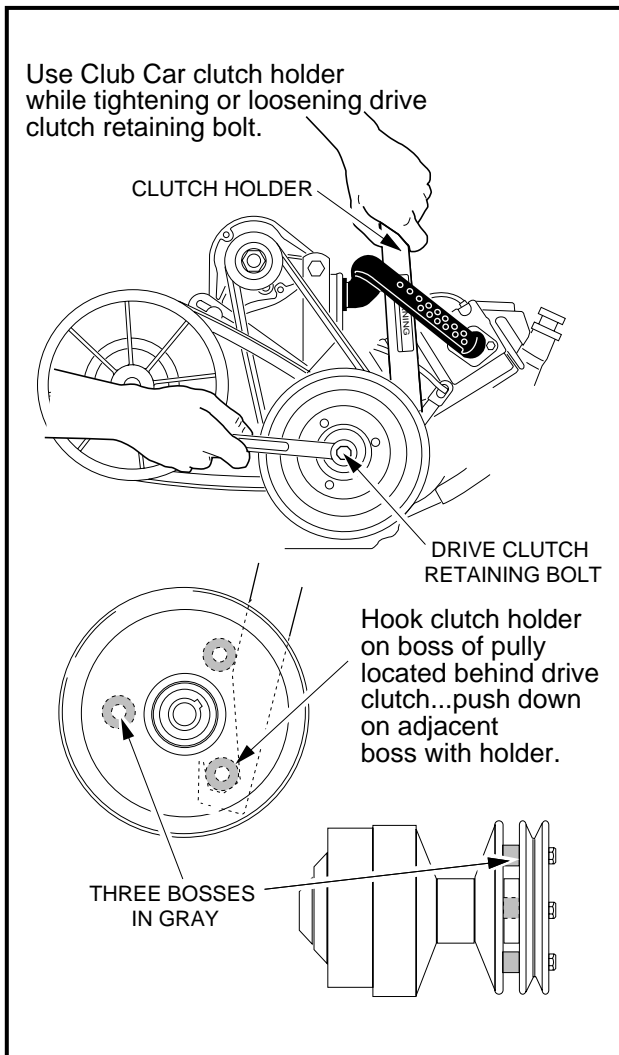
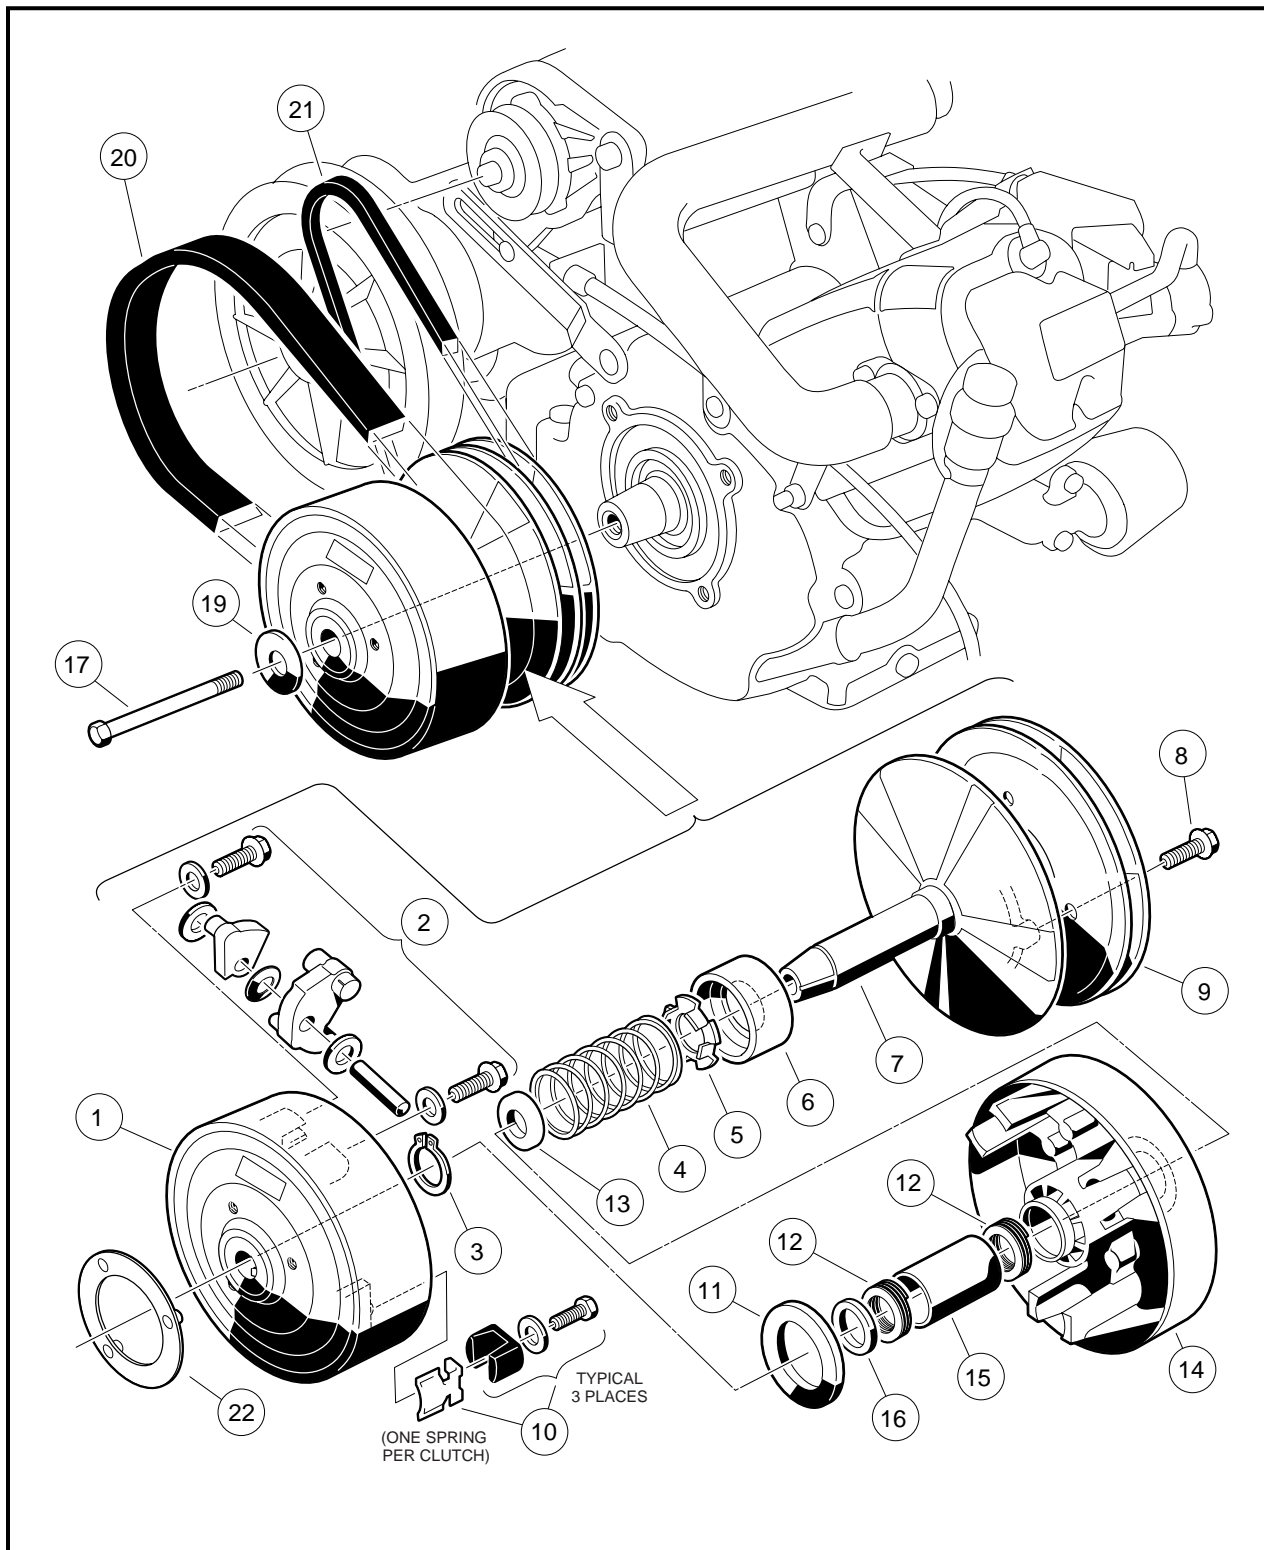

Figure 17-3 Loosen Retaining Bolt
Figure 17-5 Drive Clutch Assembly
3. If cleaning the driven clutch does not solve the problem, disassemble and thoroughly clean all parts of the drive clutch. Be sure to clean the plastic drive buttons (10) (**Figure 17-5, Page 17-6**).
4. Remove the drive clutch retaining bolt (17) and mounting washer (19) (**Figure 17-5, Page 17-6**) (**See also Figure 17-3**). **See following NOTE.**
- USE ONLY A DRY CLOTH TO LIGHTLY WIPE THE SHAFT OF THE FIXED FACE ASSEMBLY (7) (**FIGURE 17-5, PAGE 17-6**). DO NOT USE A BRUSH OR STEEL WOOL. THESE WILL DAMAGE THE SURFACE OF THE SHAFT.
2. Remove the clutch cover (1) (**Figure 17-5, Page 17-6**):
- 2.1. Remove the clutch plug (22) (**Figure 17-5, Page 17-6**).
3. Remove the thrust washer (11) from the moveable face (14) (**Figure 17-5, Page 17-6**).
6. Remove the retaining ring (3) from the shaft of the fixed face assembly (7) and slide the moveable face (14) off the shaft (**Figure 17-5, Page 17-6**). See following NOTE.
- IF THE MOVEABLE FACE IS REMOVED FROM THE HUB OF THE FIXED FACE, THE SPIRAL BACK-UP RINGS (12) (**FIGURE 17-5, PAGE 17-6**) MUST BE REPLACED WITH NEW ONES.
7. Remove the spacer (16), and spring (4) and retainer (5). The spring retainer can be removed from the spring if necessary (**Figure 17-5, Page 17-6**).
9. Use a scribe or small pick to remove the spiral backup rings (12) from each end of the bore in the fixed face assembly (**Figure 17-5, Page 17-6**). See **Figure 17-11, Page 17-9**. Discard the rings.
1. Inspect the idler bearing (6) for smooth rotation or seal damage (**Figure 17-5, Page 17-6**).
2. Inspect the bore of the moveable face assembly (14) for scarring or wear. The moveable face assembly must be replaced if the bore is worn to a diameter of 0.883 inch (22.4 mm) or larger (**Figure 17-5, Page 17-6**).
3. Inspect the steel shaft (7) on the fixed face assembly. There should be no measurable wear anywhere on the shaft. Replace the shaft if it is worn, scratched, or damaged (**Figure 17-5, Page 17-6**).
4. Inspect the thrust washer (11) for wear. If it is worn more than 0.030 inch (0.76 mm), turn it over or replace it with a new one (**Figure 17-5, Page 17-6**).
5. Inspect the primary weights (2) and the hub casting for wear. If the primary weights show signs they are touching the casting, the tips of the weights have worn beyond specification and they must be replaced (**Figure 17-5, Page 17-6**).
6. Inspect the pins on the primary weights (2). There should be no measurable wear. Replace them if they are worn, scratched, or damaged (**Figure 17-5, Page 17-6**).
1. Press idler bearing (6) onto the shaft of the fixed face assembly (7). Press on the inner race of the bearing only. Make sure that the cup side of bearing is facing away from the fixed face (**Figure 17-5, Page 17-6**).
2. Using needle nose pliers, install the spring retainer (5) onto the spring (4) (**Figure 17-5, Page 17-6**).
3. Install the spring (4) and retainer (5) into the cup of the idler bearing (6) (**Figure 17-5, Page 17-6**).
4. Install the spacer (13) onto the shaft of the fixed face (**Figure 17-5, Page 17-6**).
5. Install a new spiral backup ring (12) in each end of the bore of the moveable face assembly (14) (**Figure 17-5, Page 17-6**).
6. Install the moveable face assembly (14) onto the shaft of the fixed face assembly (7) (**Figure 17-5, Page 17-6**).
- 6.2. Install the retaining ring (3) (**Figure 17-5, Page 17-6**).
12. Install the 1/4-20 screws and washers (2) and tighten them to 10 ft-lb (13 N-m) (**Figure 17-5, Page 17-6**).
17. Install the thrust washer (11) onto the moveable face assembly (**Figure 17-5, Page 17-6**).
18. Install the hub assembly (1) on the moveable face assembly and align the match marks made before disassembling the clutch. Press the hub assembly on by hand (**Figure 17-5, Page 17-6**).
2. Tighten the drive clutch retaining bolt (17) to 25 ft-lb (33.9 N·m) (**Figure 17-5, Page 17-6**).